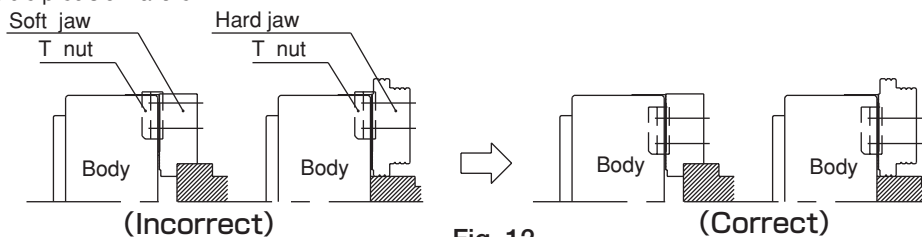

Fig. 12
- Use the T nut so that it does not come out from the master jaw. (Refer to Fig.12)